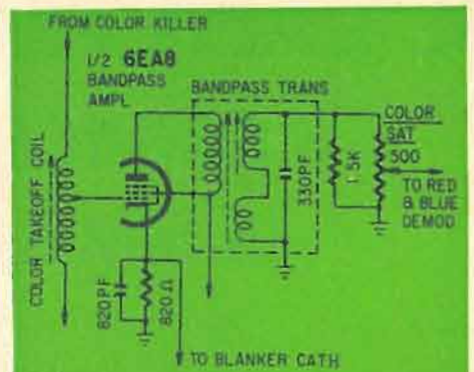

Fig. 7—Bandpass amplifier sounds mysterious, but is no different from typical AM, FM or TV i.f. stage.
7. Bandpass amplifier (Fig. 7). Actually, this is hardly worth illustrating. If you've ever seen an i.f. stage in a radio or the sound i.f. in a TV set, you've seen the same circuit. Color signal goes to the grid from the color takeoff coil, and the plate feeds the "bandpass" transformer. This is used to clean up the color signals and keep out interference from other circuits. On the secondary of the transformer is a control usually called saturation, but which I think ought to be called a "color volume control," since that's how it works. It simply regulates the amount of color signal.